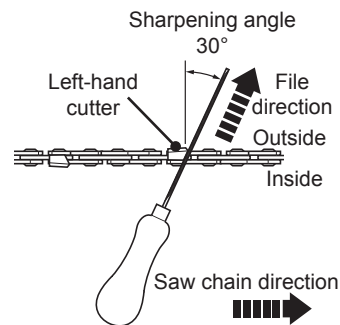

Fig. 50
- File at an angle perpendicular to the bar, and at an angle of 30° to the direction of travel (Fig. 50).